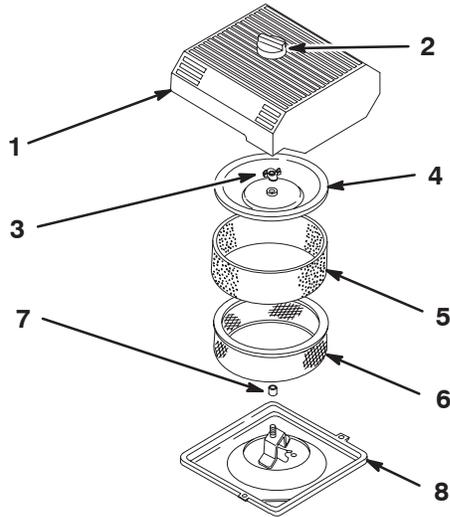

Figure 31
3. Clean around the air cleaner to prevent dirt from getting into the engine and causing damage (Fig. 31).
4. Loosen the knob on the air cleaner cover and remove the cover (Fig. 31).
5. Carefully slide the foam element off the paper element (Fig. 31).
6. Unscrew the cover nut and remove the cover and paper element (Fig. 31).
1. Carefully slide the foam element onto the paper air cleaner element (Fig. 31).
3. Install the cover nut finger-tight against the cover (Fig. 31).